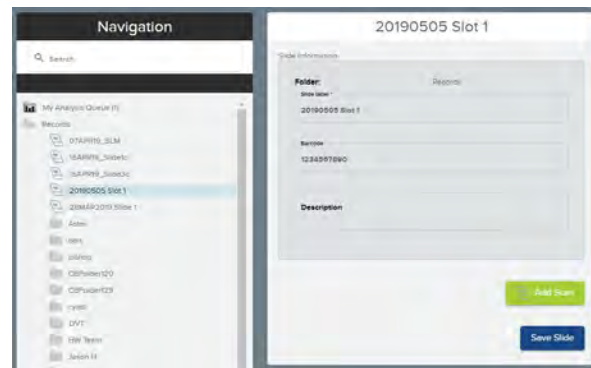

Figure 22: Navigating to a slide record
- **Select a slide.** The slide record will appear to the right of the Navigation window. Verify the information in the slide record (see Figure 22).